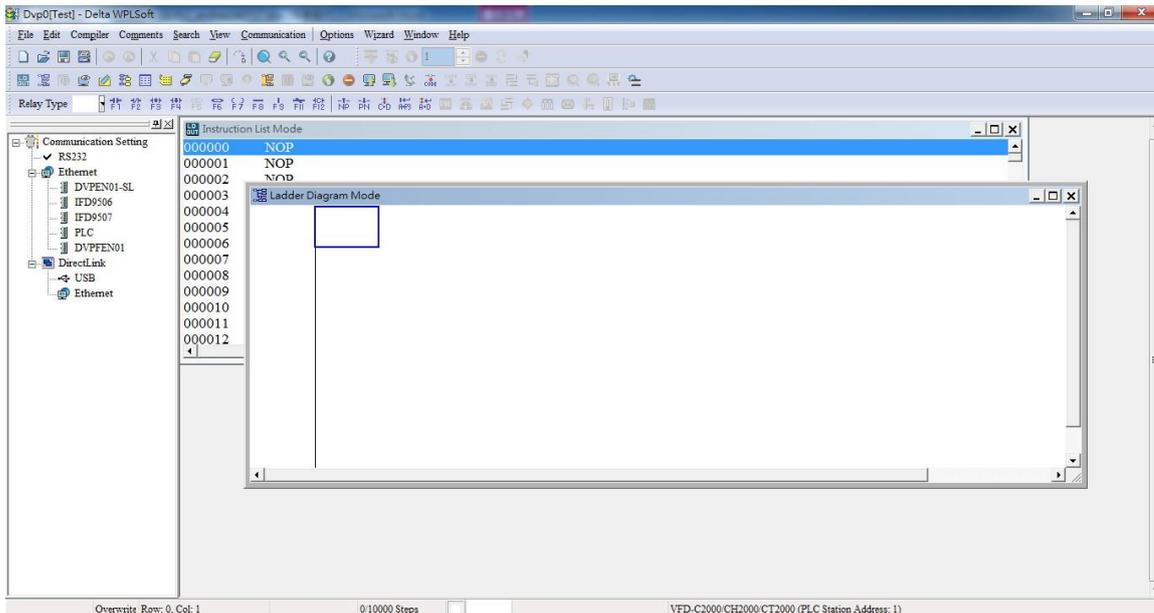

Figure 16-15
Step 5. After clicking **OK**, you can then begin editing the program. There are two program editing methods: you can edit in the command mode, or edit in the ladder diagram mode (see Figure 16-15).